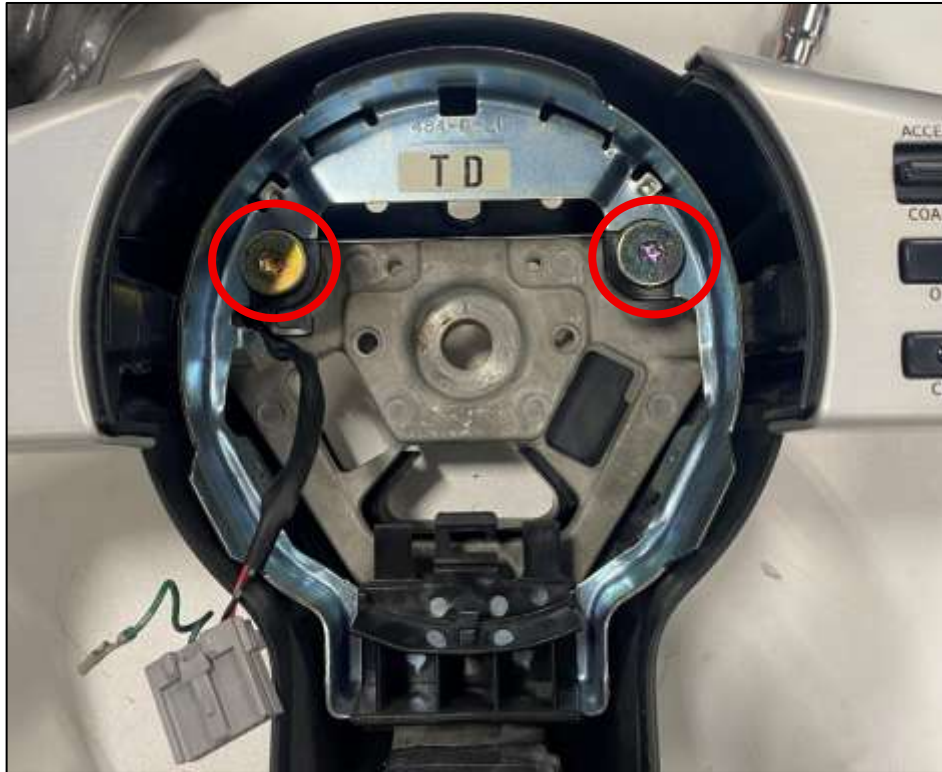

Figure 6
12. With the Steering Wheel removed, use a T40 TORX Bit to remove the (2) two screws securing the Metal Retainer to the Steering Wheel. *Figure 6.*